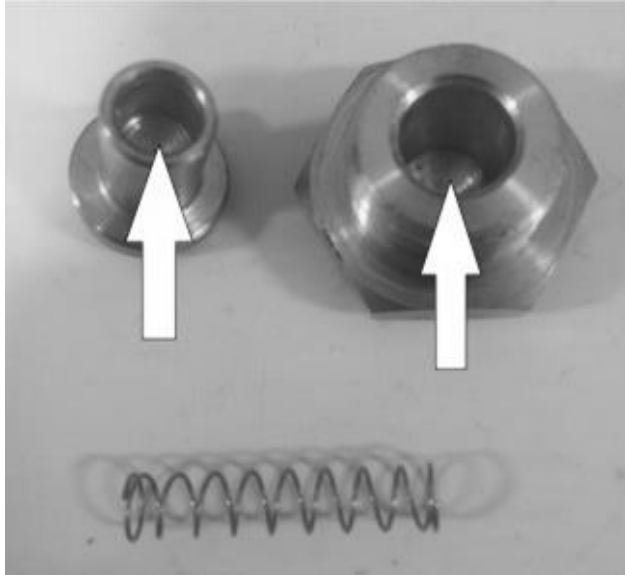
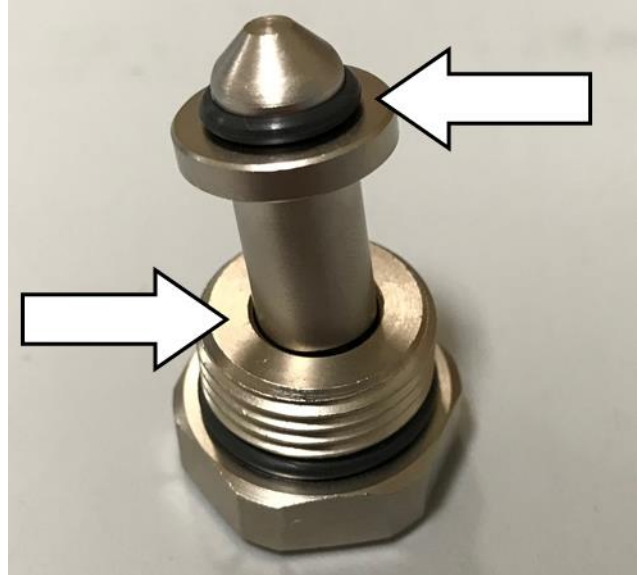

Fig. 3
Fig. 4
6. Wipe down new check valve assembly to ensure debris does not cause a negative seal. (Fig. 3, Fig. 4)